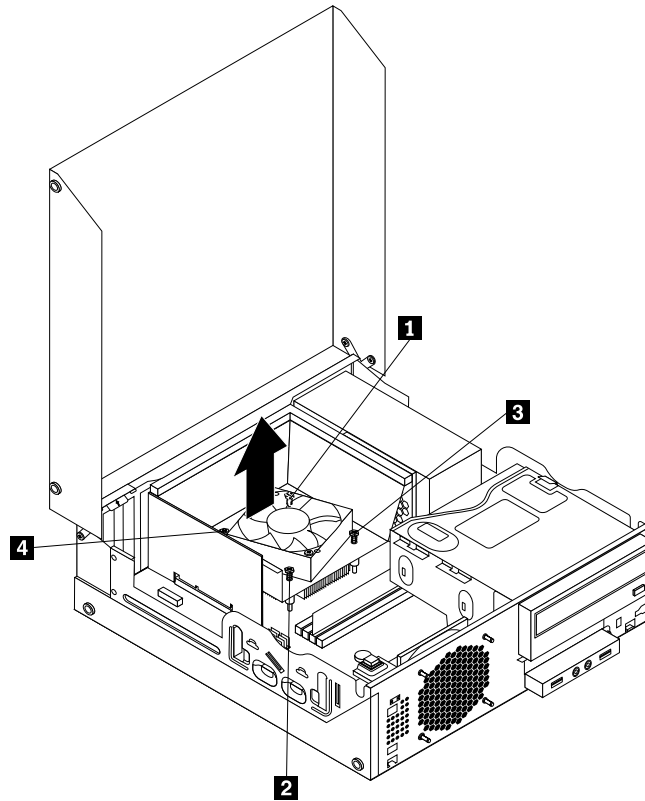

Figure 31. Screws that secure the heat sink and fan assembly
8. Follow this sequence to install the four screws to secure the new heat sink and fan assembly, as shown in Figure 31 “Screws that secure the heat sink and fan assembly” on page 48: